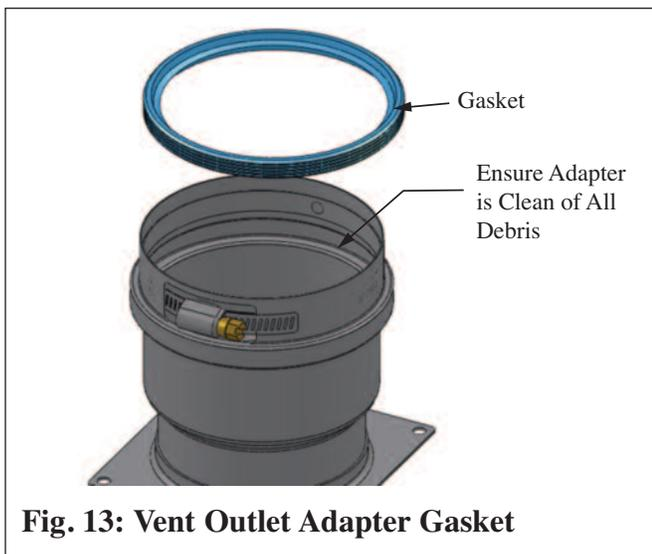

Fig. 13: Vent Outlet Adapter Gasket
4. Install new vent outlet gasket provided in the kit in vent outlet adapter. Ensure the combustion test port of the vent outlet adapter is facing toward the front of the boiler. Re-use the existing 4 mounting screws and secure vent outlet adapter to top of boiler jacket panel. (Fig. 13).
5. Install new vent outlet gasket provided in the kit in vent outlet adapter. Ensure the combustion test port of the vent outlet adapter is facing toward the front of the boiler. (Fig. 13)